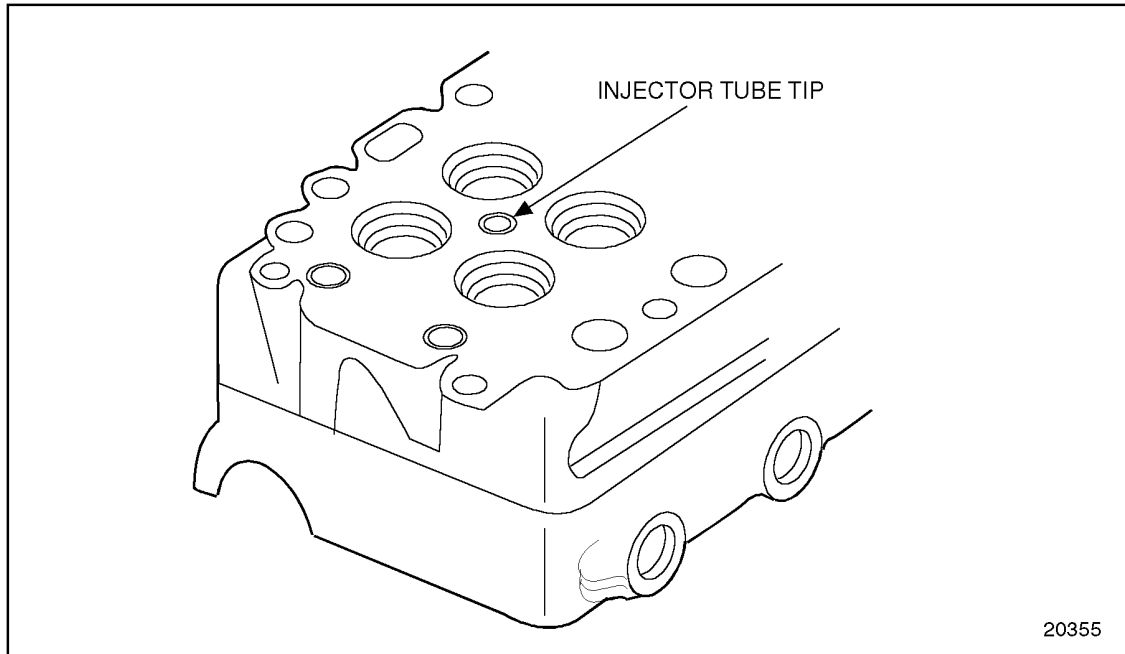

Figure 2-20 Properly Flared Injector Tube Tip
3. Continue to rotate the flaring tool and apply pressure to the flare end of the tube firmly against the cylinder head casting tube opening. Do not exceed 41 N·m (30 lb·ft) torque. See Figure 2-20.